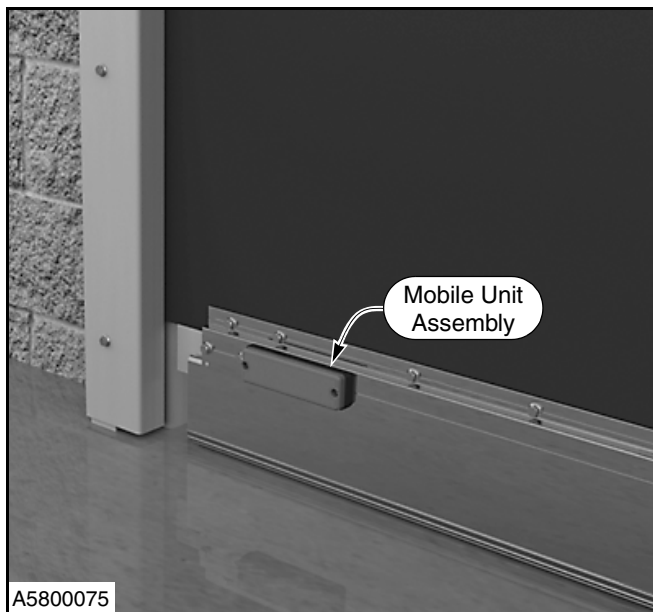

Figure 14
4. Check the mobile unit assembly. Make sure that it is tight and secure. Inspect terminal block for damage and replace any missing or damaged hardware. (See Figure 14.)